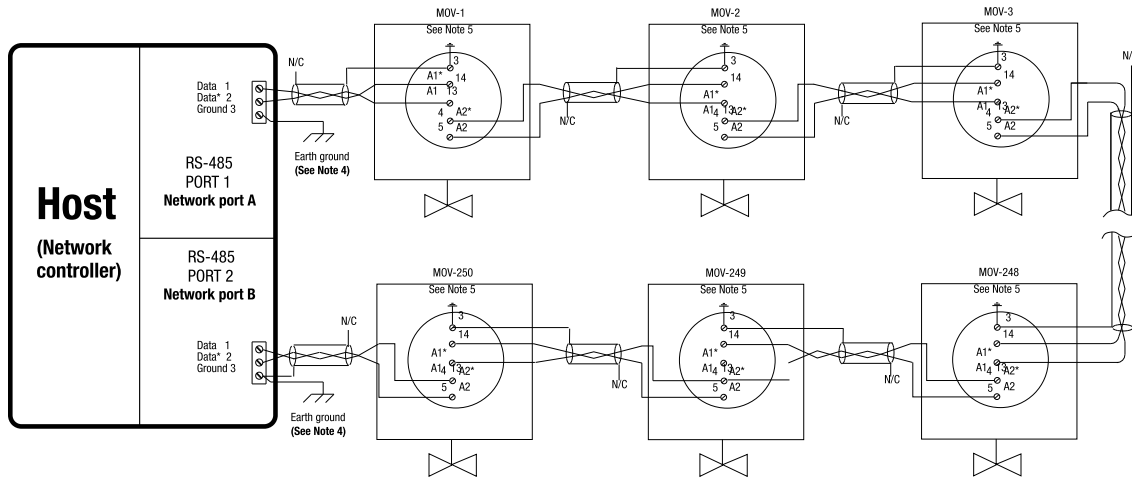

Figure 3.9 - Redundant bi-directional loop topology
6. Connect the network cables to the terminal block as shown in **Figure 3.8**. **Table 3.3** defines each network cable termination. Refer to **Figures 3.9 and 3.10** for topology-specific wiring connections.
The redundant bi-directional loop topology is wired as follows (see **Figure 3.9**):